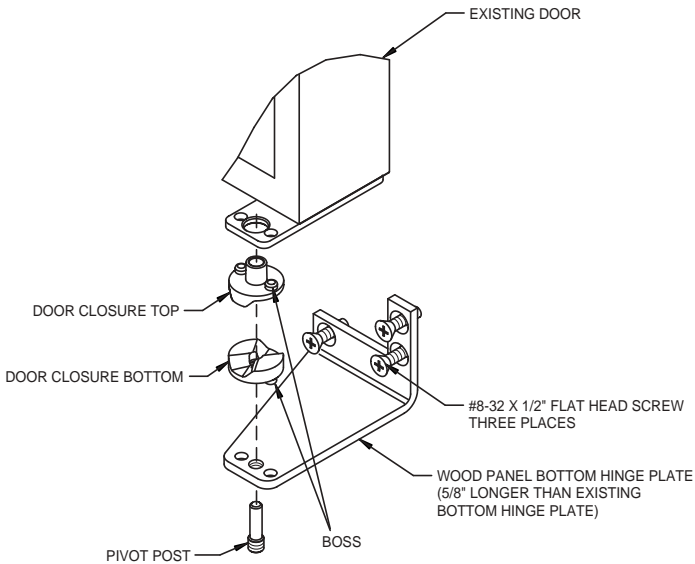

Figure 9
- d. Replace the door closure assembly onto the bottom pivot post (see Figure 9). Be sure that bosses on closures align with holes in hinge and hinge plate.